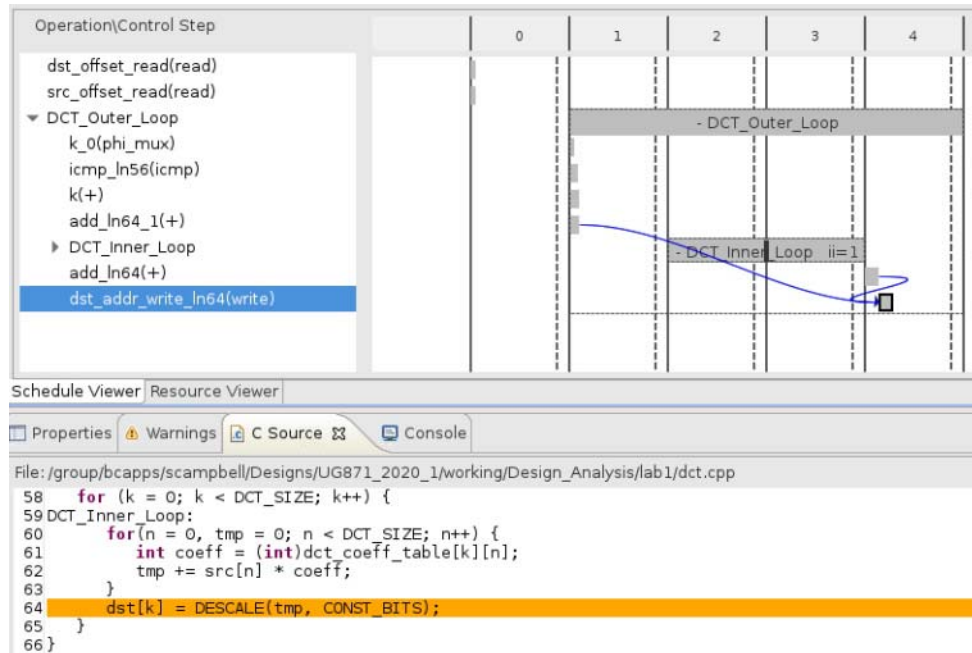

Figure 6-18: DCT Solution2 dct_1d Schedule Viewer
- In the Performance Profile, click loops `DCT_Outer_Loop` and `DCT_Inner_Loop` to view the loop hierarchy (Figure 6-18).
Figure 6-18 shows that this loop was not flattened because additional operations outside of `DCT_Inner_Loop`, at the level of `DCT_Outer_Loop`, prevented loop flattening. One of the operations that prevented loop flattening is highlighted in Figure 6-18, below.